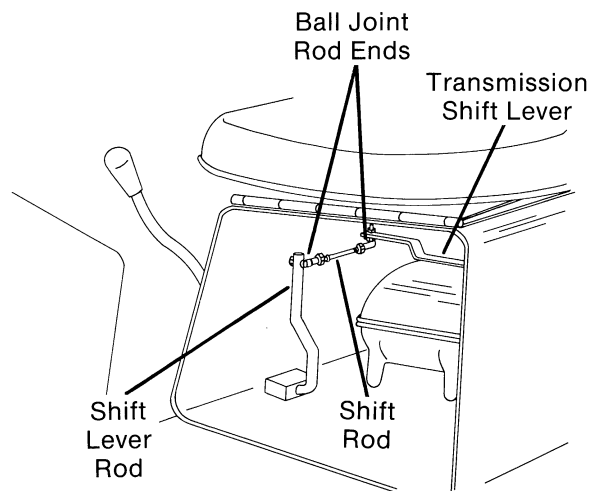

FIG. 27
- B. Unclip both ball joint rod ends on shift rod from shift lever rod and transmission shift lever. (Fig. 27) Remove shift rod.
- D. Clip adjusted shift rod back onto ball joints on shift lever rod and transmission shift lever. (Fig. 27)